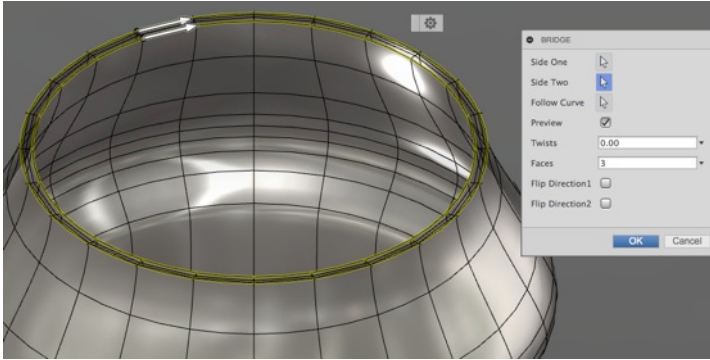

Fig. B16
38. Go to Modify>Bridge and connect the top edge of the interior surface with the top edge of the exterior surface, setting number of faces to “3” (Fig. B16).